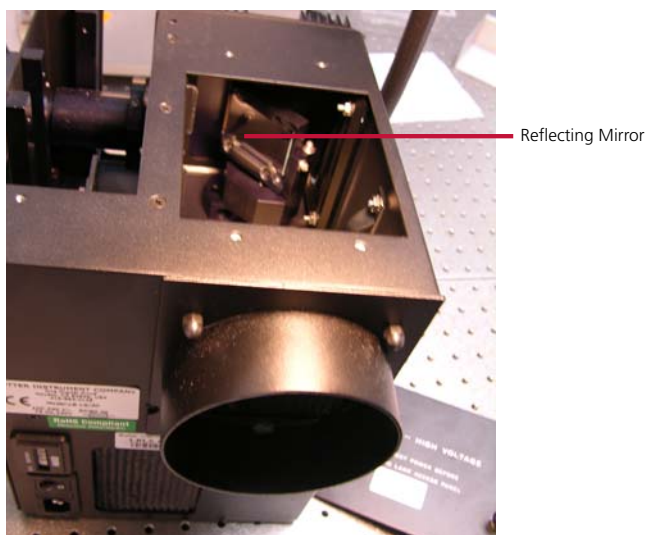
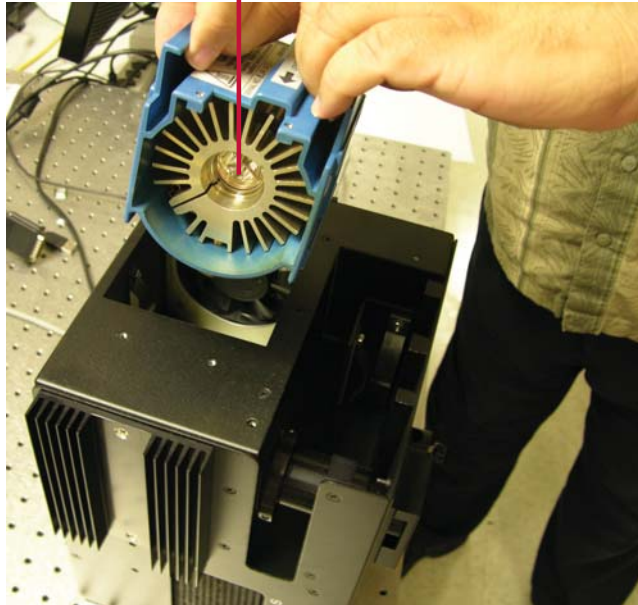

Figure 37 The reflecting mirror
Figure 38 Inserting the lamp
1. Hold the lamp by the blue plastic flanges. Ensure that the lamp bulb faces inward toward the reflecting mirror (Figure 37) and vertically insert the lamp (Figure 38).